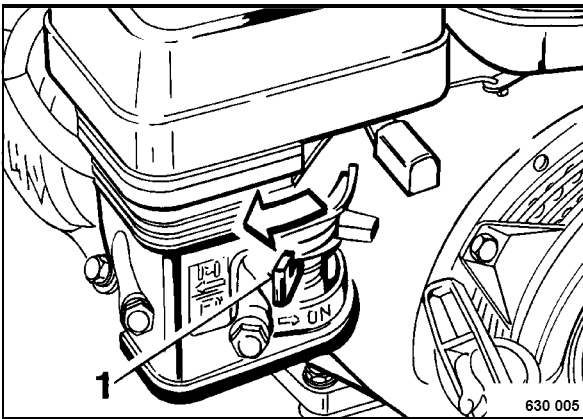

Fig. 27
- Close fuel cock 1 (Fig. 27).